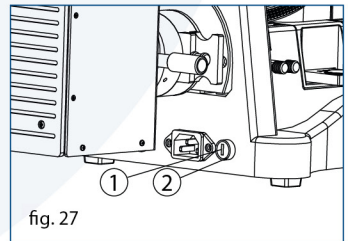

fig. 27
(Fig. 27) Before replacing the fuse, please make sure the power switch is at "0" (Off) and remove cable from the socket. Use a screwdriver to take out the fuse (1) from the fuse holder (2) and replace with a new one